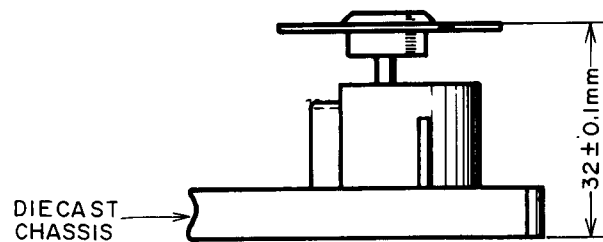

Fig. 5-2
- 6) Put the TURN TABLE on to the SPINDLE MOTOR shaft and adjust so that the height of the TURN TABLE from the diecast chassis becomes  $32 \pm 0.1$  mm as shown in Fig 5-2.